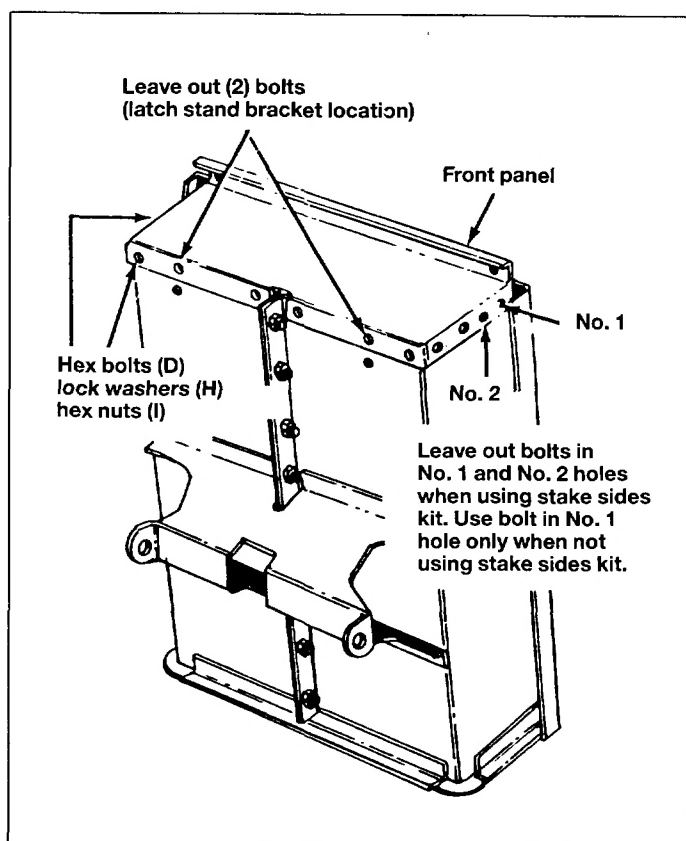

Fig. 8
13. Assemble front panel to open end of cart body, using $1/4" \times 1/2"$ (6 mm \times 12 mm) hex bolts (D), lock washers (H) and hex nuts (I). Bolt heads to inside of cart. See figure 8.
N.B. Do not assemble bolts in No. 1 or No. 2 holes when using optional stake sides kit (each side). See figure 8.